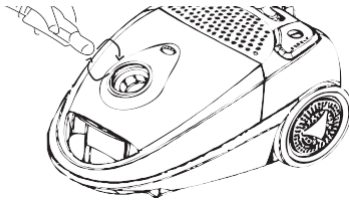

Figure 2
1. Rotate the hose connector into the hose opening on the motor unit to the right (see Figure 2). To remove the hose, rotate the connector to the left and pull the connector from the hose opening.